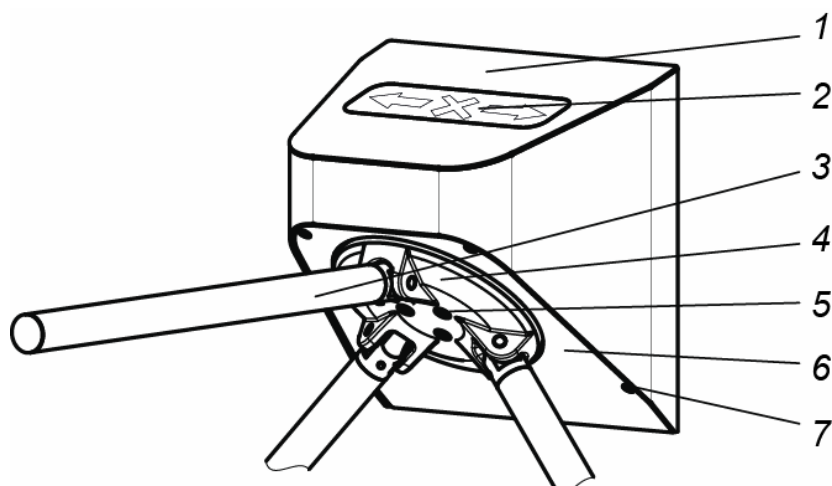
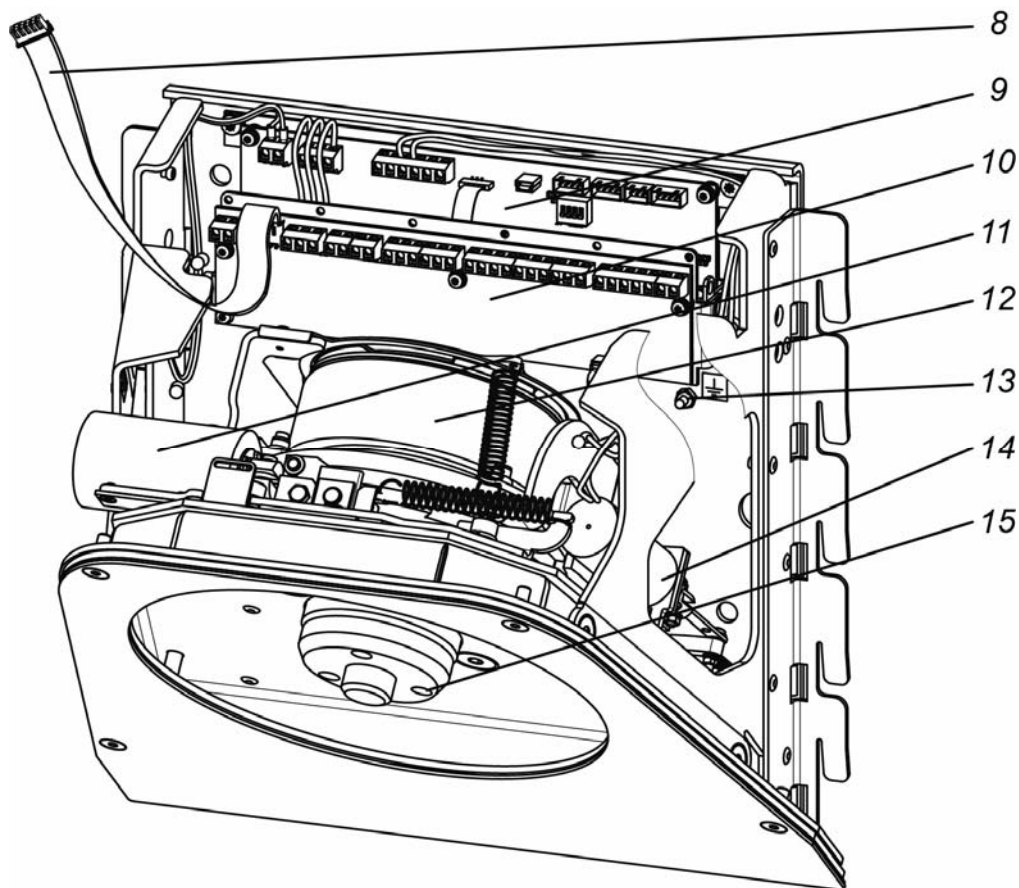

Figure 2. Turnstile components without a mounting bracket (post)
Figure 3. The internal turnstile components (with the housing and the hub removed)
The design of the turnstile (Fig. 2). Numbers in brackets correspond to Fig. 2 and 3 of this Manual.
You can access the internal components of the turnstile by detaching the housing (1). The housing and the turnstile base are secured with four mounting screws (7) for SW3 Allen key. When operating the turnstile, the housing must be secured to the base. Inside the base under the housing are located (Fig. 3): the drive control board (9), interface board (10) and the turnstile mechanism, which includes:
- drive (12) assembled with electric motor and position sensor board;
- electromechanical blocking device (14) with optical sensors;
- emergency unblocking device (*Fire Alarm*) (11) (anti-panic function of automatic folding arms).
The housing (1) contains LED indication unit (2) to inform about the turnstile current status and the established operation mode (Fig. 2 and 4). The display has three pictographic indicators: